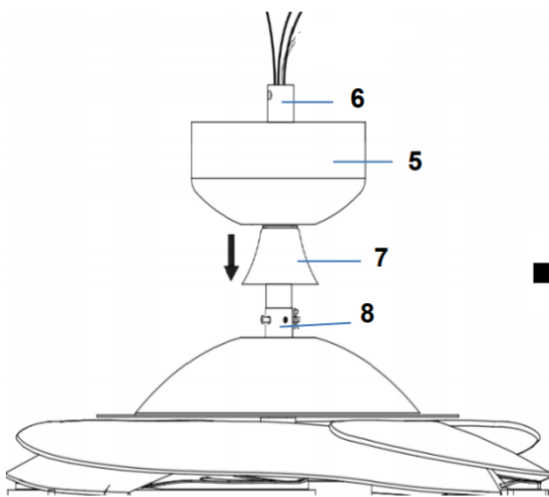
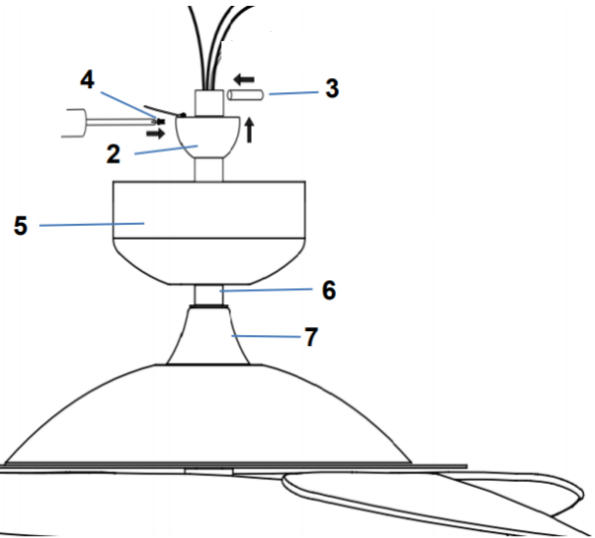

Fig. 6.5
Fig. 6.6
6. Insert the decorative cover (7) onto the down rod (6) to cover the down rod coupling housing (8). (Fig. 6.5)
7. Insert the canopy (5) over the down rod (6) and install the ball joint (2) and dowel pin (3) back onto the down rod (6) and secure by tightening the set screws (4). (Fig. 6.5 and Fig. 6.6)